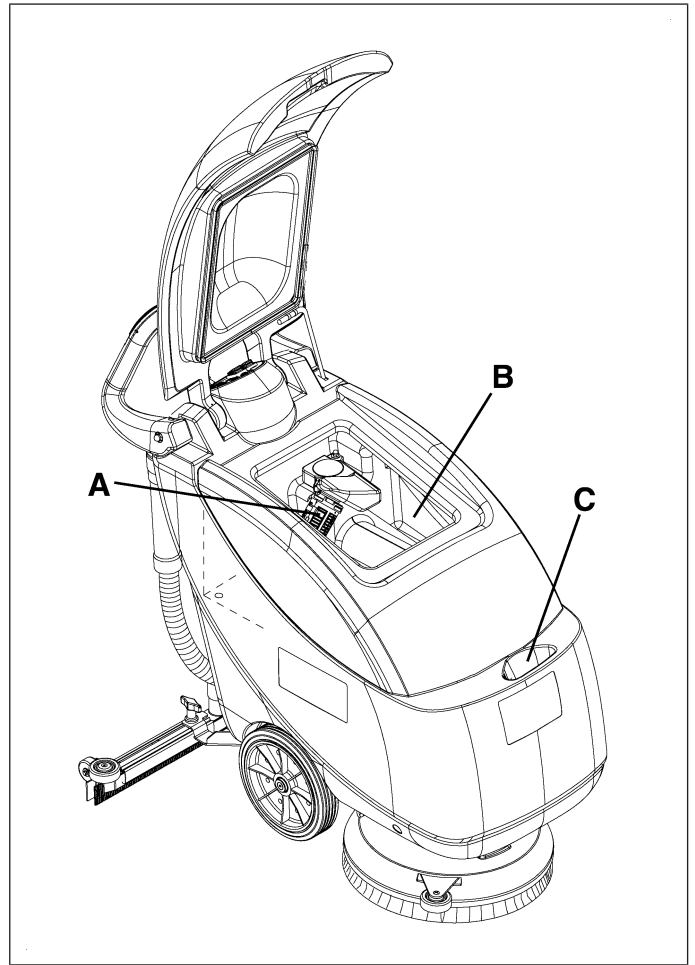

Figure 20
An automatic float shut-off system (A, Fig. 20) deactivates the vacuum system once the recovery tank (B) is full.
When the recovery tank (B, Fig. 20) is full, empty it according to the following procedure.
2. Empty the tanks (B and C, Fig. 20) according to the procedure shown in the previous paragraph.